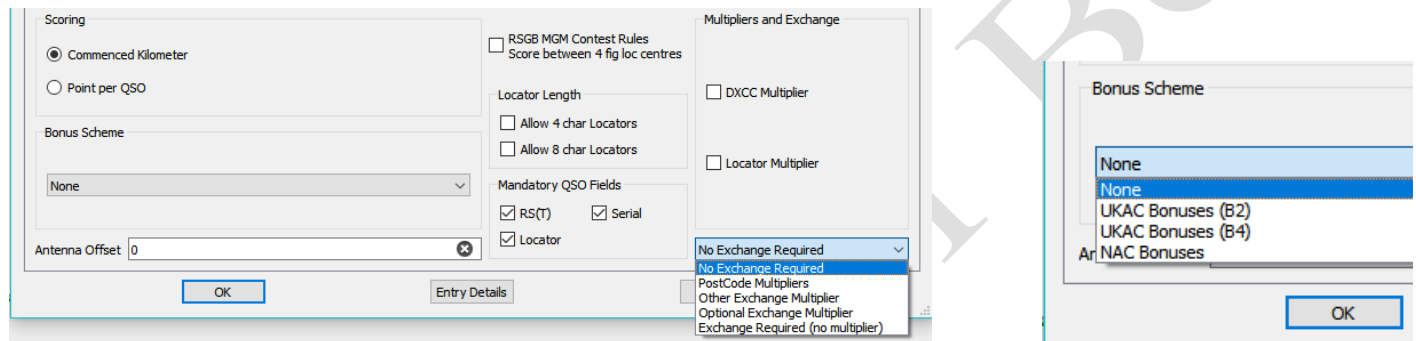

Figure 14 – Contest details and Bonus schemes
- **Contest:** Typically derived from the contest calendar, specifying contest name, band(s), and scoring. If the calendar is not used then individual boxes can be configured (see Figure 14) or modified from the calendar derived values.
If the contest is not selected from the Calendar then use the relevant fields on the “**Details of Contest Entry**” panel (see Figure 14) to set the name, date/time, scoring, multipliers etc. Any bonus scheme in use must also be selected from the pulldown list at the bottom left.